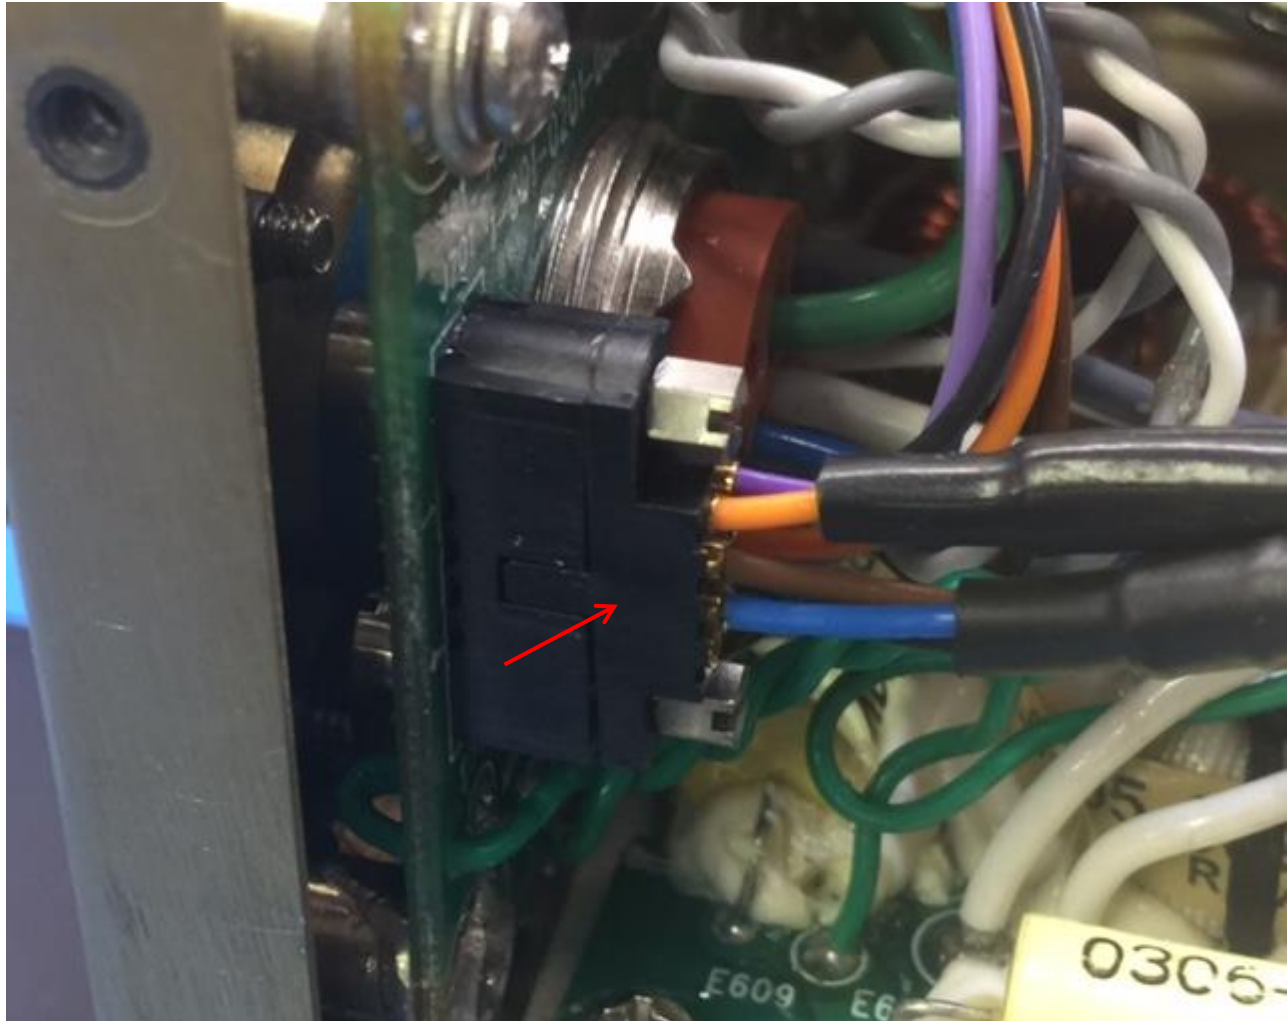
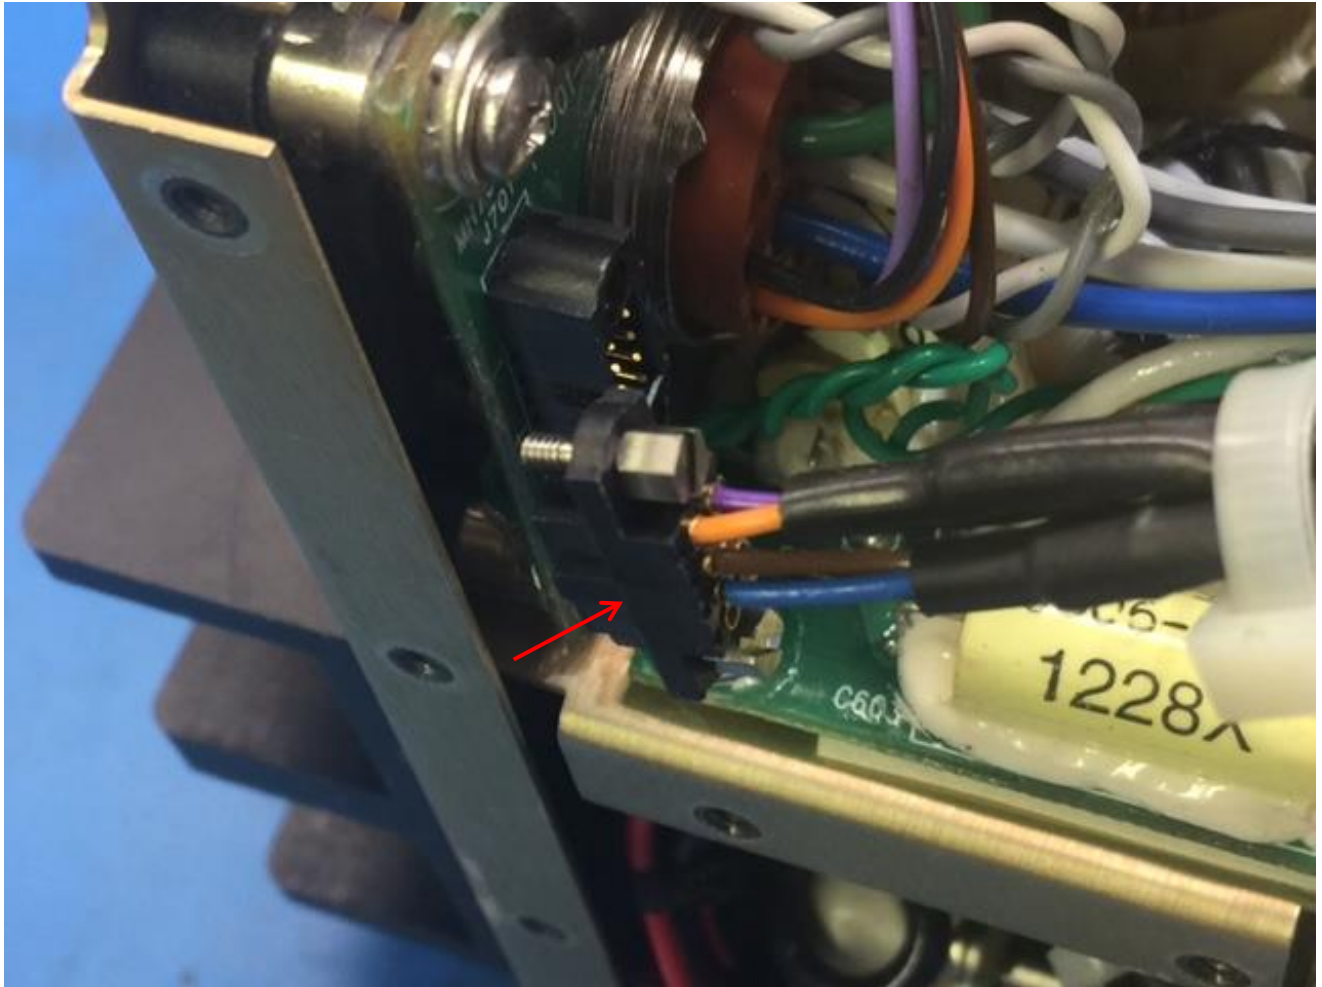

Figure 5
Figure 6
4. Disconnect the connector from the AC connector/ alarm assembly. (Figure 5, Figure 6).